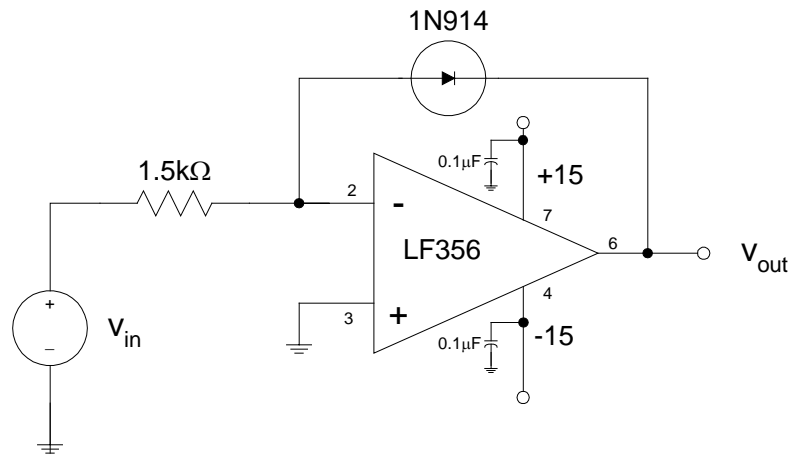

Figure 1: Circuit for Experiment 1
1. Build the logarithmic amplifier shown in figure 1. **Q 1.1 What is the ideal input/output relationship V_{OUT} versus V_{IN} for this amplifier when the diode is biased with forward current?** [Answer next page- sign must be correct for credit]